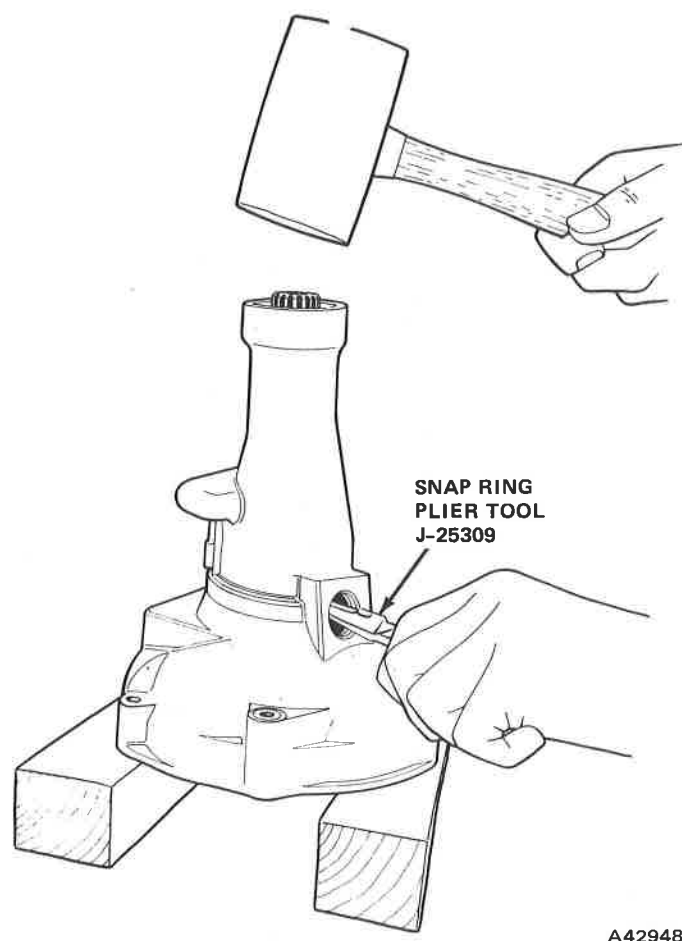
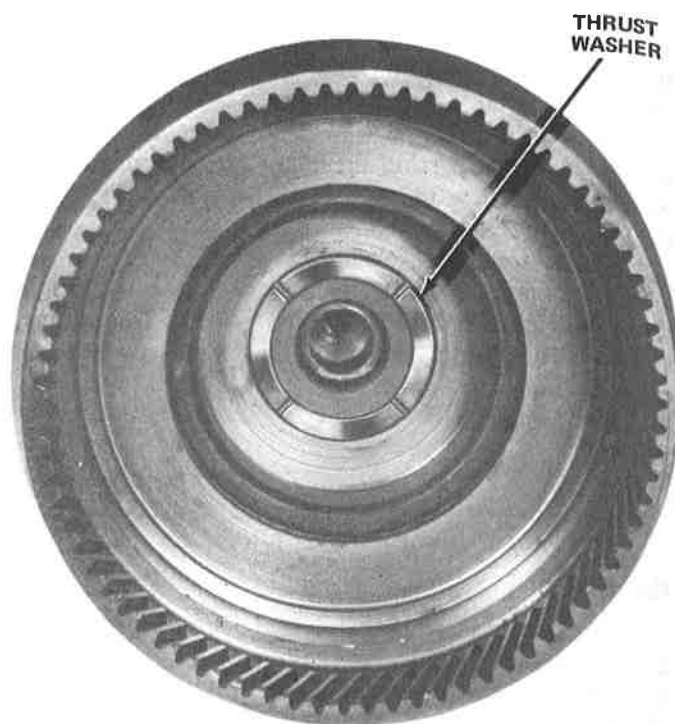

Fig. 6-48 Main Shaft Removal
Fig. 6-51 Main Shaft Thrust Washer Location
(a) Position rear case on two wood blocks (fig. 6-48). Allow sufficient space between blocks for main shaft annulus gear to pass through.
(b) Expand main shaft bearing snap ring, which is accessible through expansion plug hole, with Snap Ring Plier Tool J-25309 and tap end of main shaft with plastic or lead hammer to drive main shaft out of rear case (fig. 6-48).
(4) Install new main shaft bearing snap ring in machined groove in rear case. Position snap ring so butt ends are accessible through expansion plug hole in case.
(5) Place main shaft in upright position and lower rear case onto main shaft. Tap end of case with plastic or lead hammer to start main shaft bearing into counterbore in case. When bearing contacts snap ring, expand snap ring with Tool J-25309 and continue tapping end of case until bearing is fully seated in counterbore, and snap ring is seated in bearing groove (fig. 6-48).
(6) Lubricate lip of rear case oil seal with transmission fluid. Install seal with Installer Tool J-25306. Install new expansion plug in rear case. Be sure to bottom oil seal in counterbore and to secure expansion plug by striking center of plug with flat-faced punch or similar tool.
(7) Lubricate main shaft thrust washer with transmission fluid and install washer into recess in main shaft annulus gear (fig. 6-51).